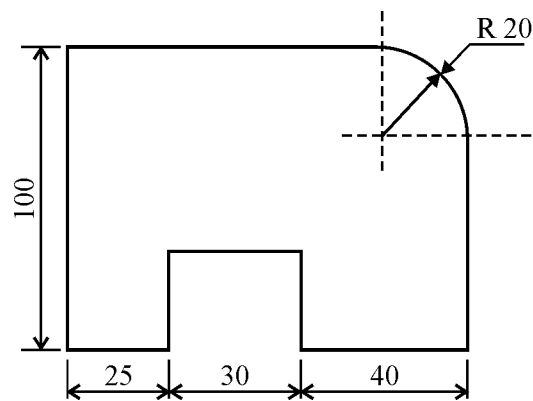

Fig. No. 1
- (b) Prepare a part programme to machine the workpiece as shown in Fig. No. 1 on CNC milling machine.